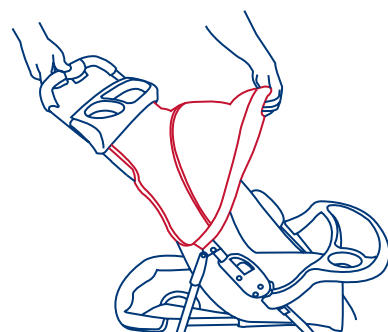

Fig. 12
* To open the canopy, push forward on the front frame of the canopy. Pull backwards on the canopy frame to fold completely. Always fold the canopy prior to folding the stroller frame. Please see figure 12.